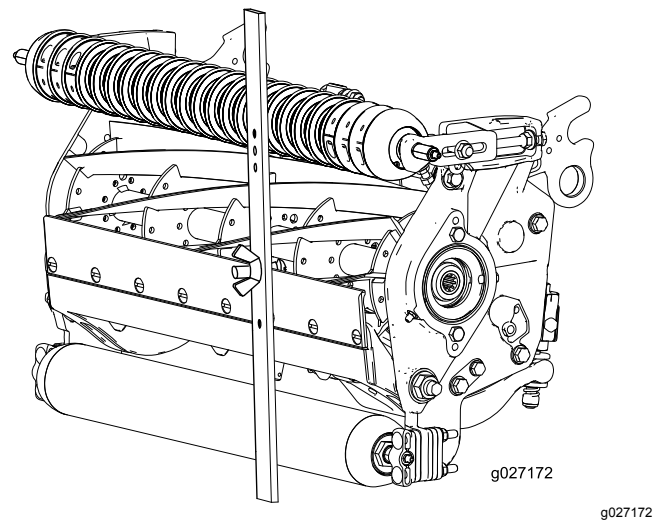

Figure 17
4. Hook the screw head on the cutting edge of the bedknife and rest the rear end of the bar on the rear roller (Figure 17).
5. Rotate the adjusting screw until the front roller contacts the gauge bar (Figure 17).